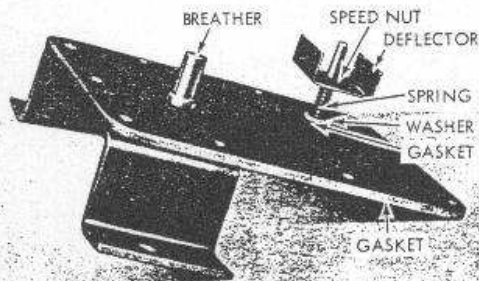

Figure 8
4. Remove cover bolts (1, 1A, 59), lift off cover bracket (earlier style bracket welded to cover), remove cover sub-assembly and cover gasket (2 and 3) (Fig. 8 and 17).